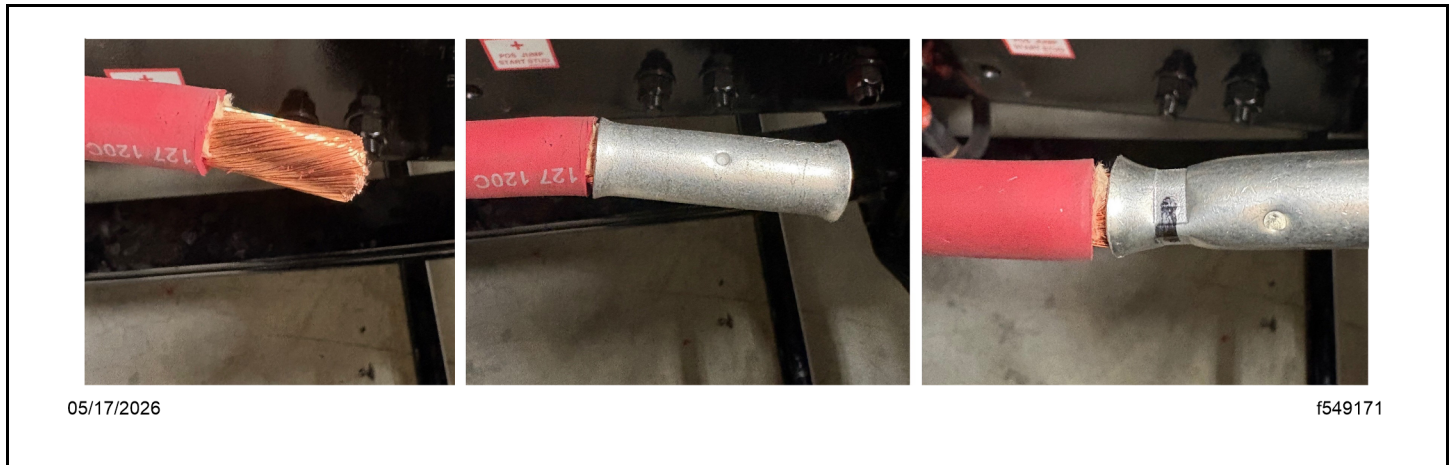

Fig 61, Installing and Crimping the Terminal
20. Crimp the butt connector terminals (PHM 8 2960 and PHM 8 2980) on the cables routed to the cab. See Fig. Fig. 61.